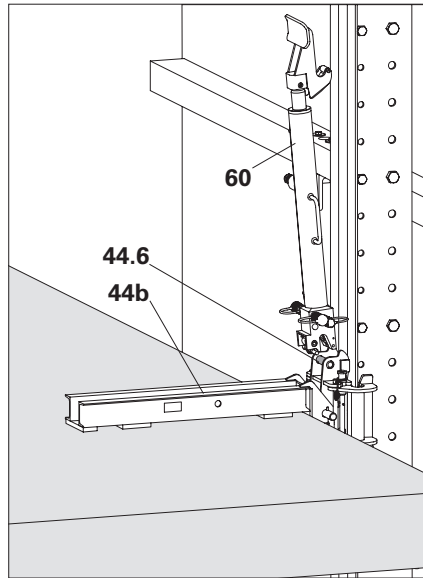

Fig. D4.02
2. Position the Climbing Device RCS (**60**) on the bolts (**44.6**) of the middle climbing shoes (**44b**) and engage. The climbing device is pressed against the climbing rail through spring force. Guide the claw into the climbing rail. (Fig. D4.02 + D4.02a)